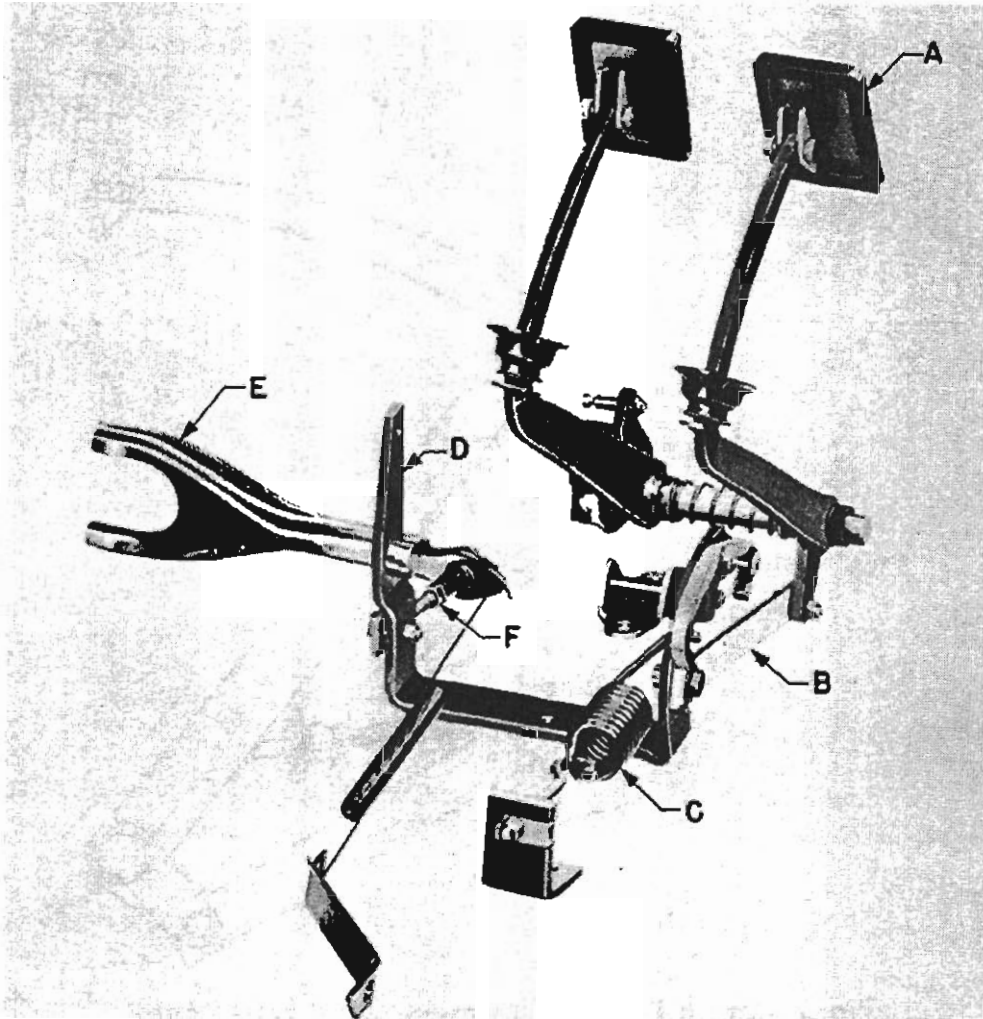

Fig. 6—Operation of the Clutch Linkage.
To disengage the clutch, a force is applied to the clutch pedal (A, figure 6). This force is transmitted through the linkage (B) helped along by the booster spring (C), to the relay lever (D). The throwout lever (E) ball pivoted at the end of the throwout lever rod (F) and again at a fitting on the bell housing, pushes forward on the release bearing.